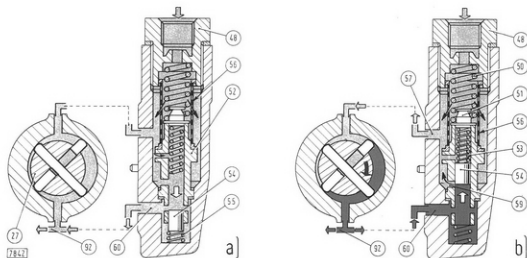

Fig. 80 - Transfer Pump and Regulating Valve Operation Diagram
If the pressure rating is not as prescribed, renew regulating spring (53, Fig. 80) and spring guide (51).